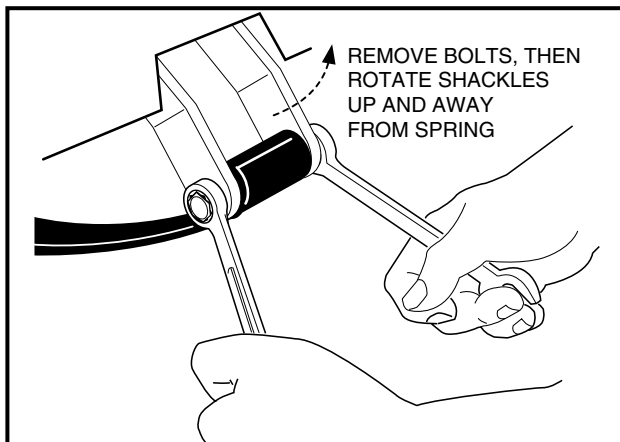

FIGURE 10-23
6. Raise the vehicle just enough to relieve tension from the leaf springs, then remove the bolts securing the leaf springs to the shackles (**Figure 10-23, Page 44**).